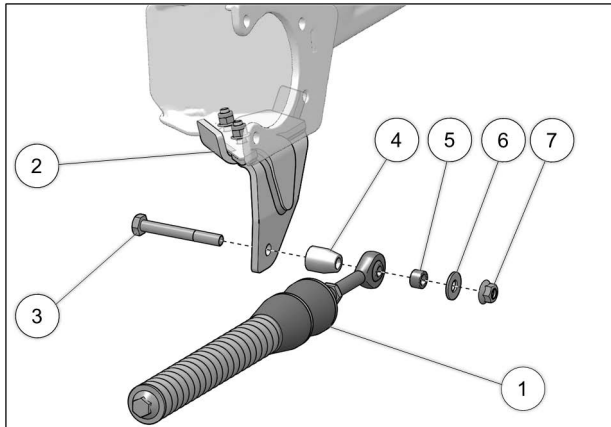

Fig. 9
9. Attach stabilizing rod (1) to anchor bracket (2), using 80mm-long M10 bolt (3), long spacer bushing (4), short spacer bushing (5), flat washer (6), and nut (7). Torque to 70 Nm [52 lb•ft]. See Fig. 9